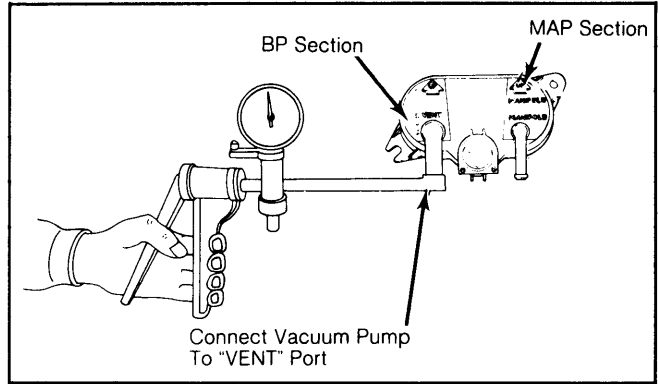

Fig. 12: Applying Vacuum to BP/MAP Sensor
- 2) Connect analog voltmeter positive lead to Lt. Green/Black wire (circuit No. 99) at thermactor air diverter solenoid. Connect voltmeter negative lead to ground. Apply 20" Hg of vacuum to BP/MAP sensor "VENT" port for at least 30 seconds. See Fig. 12.